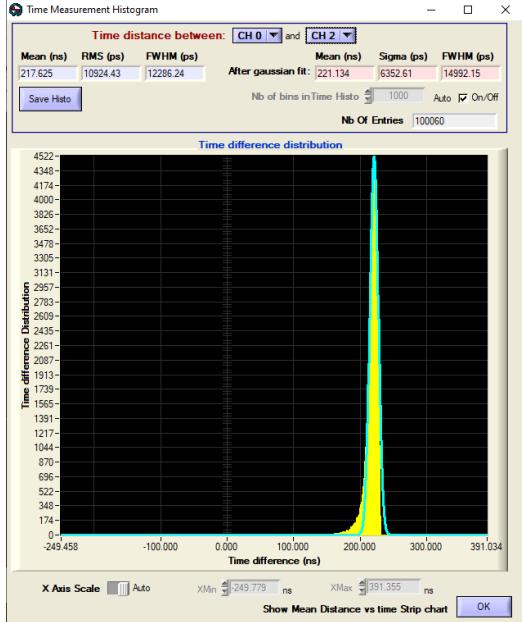

Fig. 7.26: Time Measurement Histogram dialog box
- *Time Distance Histogram*: The software permits to display the histogram of the time distance between each pair of channels that were enabled during the run (Sec. 9.1.1). The Mean, RMS and FWHM (Full Width Half Maximum) values of the distribution are monitored in real time during the acquisition each N events, where N is the % event selected by the User in the Main tab (Sec. 9.1). Referring to the Time Difference Distribution plot, the User can select between the automatic and manual option for the x-axis scale. On the stop acquisition, a Gaussian fit is applied to the distribution (cyan trace) and the fitted Mean, Sigma, and FWHM are displayed (*After gaussian fit*). Histograms can be saved to file through the *Save Histo* key (Chap. 11). By the Show Mean Distance vs Time Strip Chart button, the homonym plot opens (Fig. 7.26: **Time Measurement Histogram dialog box** Fig. 7.26).